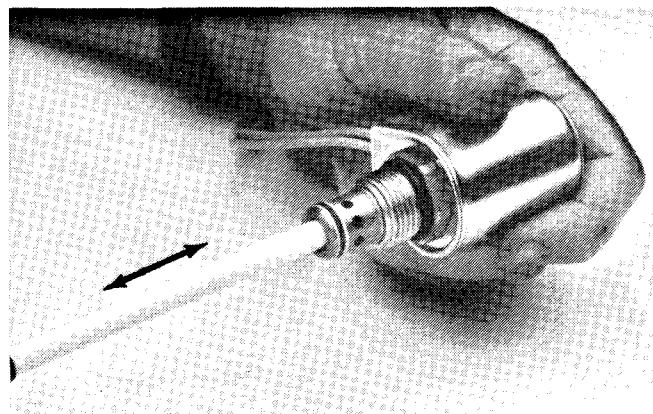

Figure 78
A. Use a blunt object of the approximate same diameter as the spool or poppet to carefully push on the spool or poppet from the bottom of the cartridge (Fig. 78). Movement should be smooth, without any sticking or hanging up during the full range of movement. Movement should be far enough to open up the proper cross holes in the cage. The spool or poppet should then return to its normal spring-held position freely, again closing off the cross holes in the cage. NOTE: Relief valves have a high spring force which may be difficult to overcome.